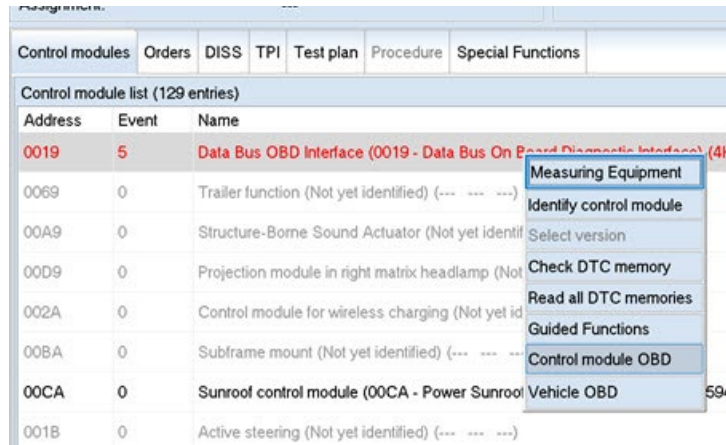

Figure 1. Control Module OBD.
1. Start ODIS, use Diagnosis (GFF), enter Control Module OBD, and query the Diagnostic Address 0019 – Data Bus On-Board Diagnostic Interface (J533). These steps can also be achieved using Self-Diagnosis, but one must use this process for warranty reporting and reimbursement. If one uses the Self-Diagnosis directly from the start of ODIS, no GFF log will be uploaded to reflect the work being performed (Figure 1).